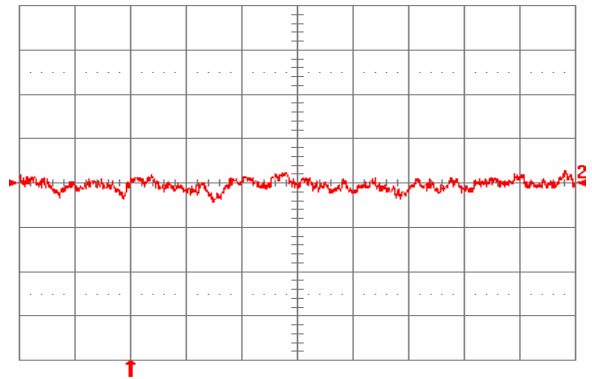

**Fig. 1.8V.14:** Test Setup for measuring input reflected ripple currents,  $i_c$  and  $i_s$ .
**Fig. 1.8V.1:** Available load current vs. ambient air temperature and airflow rates for SQ48T15018 converter with D height pins mounted vertically with  $V_{in} = 48\text{ V}$ , air flowing from pin 3 to pin 1, and maximum FET temperature  $\leq 120\text{ }^\circ\text{C}$ .
**Fig. 1.8V.2:** Available load current vs. ambient air temperature and airflow rates for SQ48T15018 converter with D height pins mounted horizontally with  $V_{in} = 48\text{ V}$ , air flowing from pin 3 to pin 1, and maximum FET temperature  $\leq 120\text{ }^\circ\text{C}$ .
**Fig. 1.8V.3:** Available load current vs. ambient air temperature and airflow rates for SQ48S15018 converter mounted vertically with  $V_{in} = 48\text{ V}$ , air flowing from pin 3 to pin 1, and maximum FET temperature  $\leq 120\text{ }^{\circ}\text{C}$ .
**Fig. 1.8V.4:** Available load current vs. ambient air temperature and airflow rates for SQ48S15018 converter mounted horizontally with  $V_{in} = 48\text{ V}$ , air flowing from pin 3 to pin 1, and maximum FET temperature  $\leq 120\text{ }^{\circ}\text{C}$ .
**Fig. 1.8V.5:** Efficiency vs. load current and input voltage for SQ48T/S15018 converter mounted vertically with air flowing from pin 3 to pin 1 at a rate of 300 LFM (1.5 m/s) and  $T_a = 25\text{ }^{\circ}\text{C}$ .
**Fig. 1.8V.6:** Efficiency vs. load current and ambient temperature for SQ48T/S15018 converter mounted vertically with  $V_{in} = 48\text{ V}$  and air flowing from pin 3 to pin 1 at a rate of 200 LFM (1.0 m/s).
**Fig. 1.8V.7:** Power dissipation vs. load current and input voltage for SQ48T/S15018 converter mounted vertically with air flowing from pin 3 to pin 1 at a rate of 300 LFM (1.5 m/s) and  $T_a = 25\text{ }^\circ\text{C}$ .
**Fig. 1.8V.8:** Power dissipation vs. load current and ambient temperature for SQ48T/S15018 converter mounted vertically with  $V_{in} = 48\text{ V}$  and air flowing from pin 3 to pin 1 at a rate of 200 LFM (1.0 m/s).
**Fig. 1.8V.9:** Turn-on transient at full rated load current (resistive) with no output capacitor at  $V_{in} = 48\text{ V}$ , triggered via ON/OFF pin. Top trace: ON/OFF signal (5 V/div.). Bottom trace: output voltage (1 V/div.). Time scale: 2 ms/div.
**Fig. 1.8V.10:** Turn-on transient at full rated load current (resistive) plus 10,000  $\mu\text{F}$  at  $V_{in} = 48\text{ V}$ , triggered via ON/OFF pin. Top trace: ON/OFF signal (5 V/div.). Bottom trace: output voltage (1 V/div.). Time scale: 2 ms/div.
**Fig. 1.8V.11:** Output voltage response to load current step-change (3.75 A – 7.5 A – 3.75 A) at  $V_{in} = 48$  V. Top trace: output voltage (100 mV/div.). Bottom trace: load current (5 A/div.). Current slew rate: 0.1 A/ $\mu$ s.  $C_o = 1$   $\mu$ F ceramic. Time scale: 0.2 ms/div.
**Fig. 1.8V.12:** Output voltage response to load current step-change (3.75 A – 7.5 A – 3.75 A) at  $V_{in} = 48$  V. Top trace: output voltage (100 mV/div.). Bottom trace: load current (5 A/div.). Current slew rate: 5 A/ $\mu$ s.  $C_o = 450$   $\mu$ F tantalum + 1  $\mu$ F ceramic. Time scale: 0.2 ms/div.
**Fig. 1.8V.13:** Output voltage ripple (20 mV/div.) at full rated load current into a resistive load with  $C_o = 10$   $\mu$ F tantalum + 1  $\mu$ F ceramic and  $V_{in} = 48$  V. Time scale: 1  $\mu$ s/div.
**Fig. 1.8V.15:** Input reflected ripple current,  $i_c$  (100 mA/div.), measured at input terminals at full rated load current and  $V_{in} = 48$  V. Refer to Fig. 1.8V.14 for test setup. Time scale: 1  $\mu$ s/div.
**Fig. 1.8V.16:** Input reflected ripple current,  $i_s$  (10 mA/div.), measured through 10  $\mu$ H at the source at full rated load current and  $V_{in} = 48$  V. Refer to Fig. 1.8V.14 for test setup. Time scale: 1  $\mu$ s/div.
**Fig. 1.8V.17:** Output voltage vs. load current showing current limit point and converter shutdown point. Input voltage has almost no effect on current limit characteristic.
**Fig. 1.8V.18:** Load current (top trace, 20 A/div., 20 ms/div.) into a 10  $m\Omega$  short circuit during restart, at  $V_{in} = 48$  V. Bottom trace (20 A/div., 1 ms/div.) is an expansion of the on-time portion of the top trace.